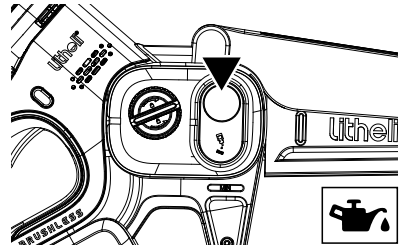

Fig. 10
3. Add bar and chain oil until the oil tank is full. (Fig. 10)